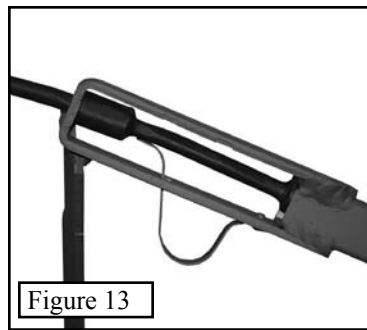

Figure 13
Step 4. Your cable bracket should now look like **Figure 13**.